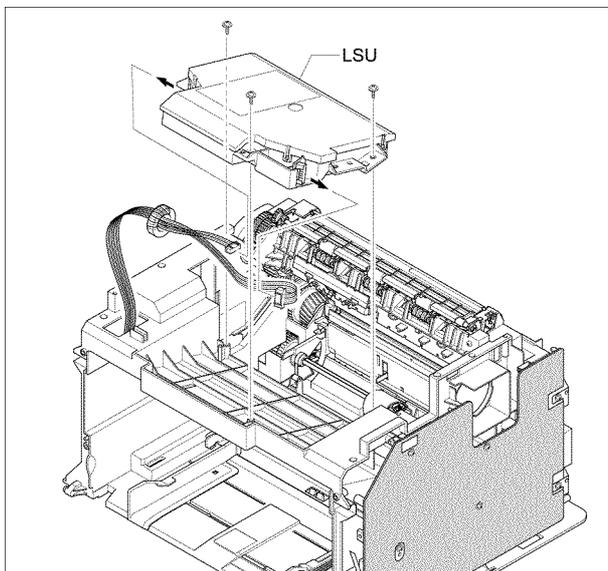

Figure 1
2. Remove 3 screws, then lift the LSU and disconnect all the harnesses attached. Remove the LSU, Figure 1.